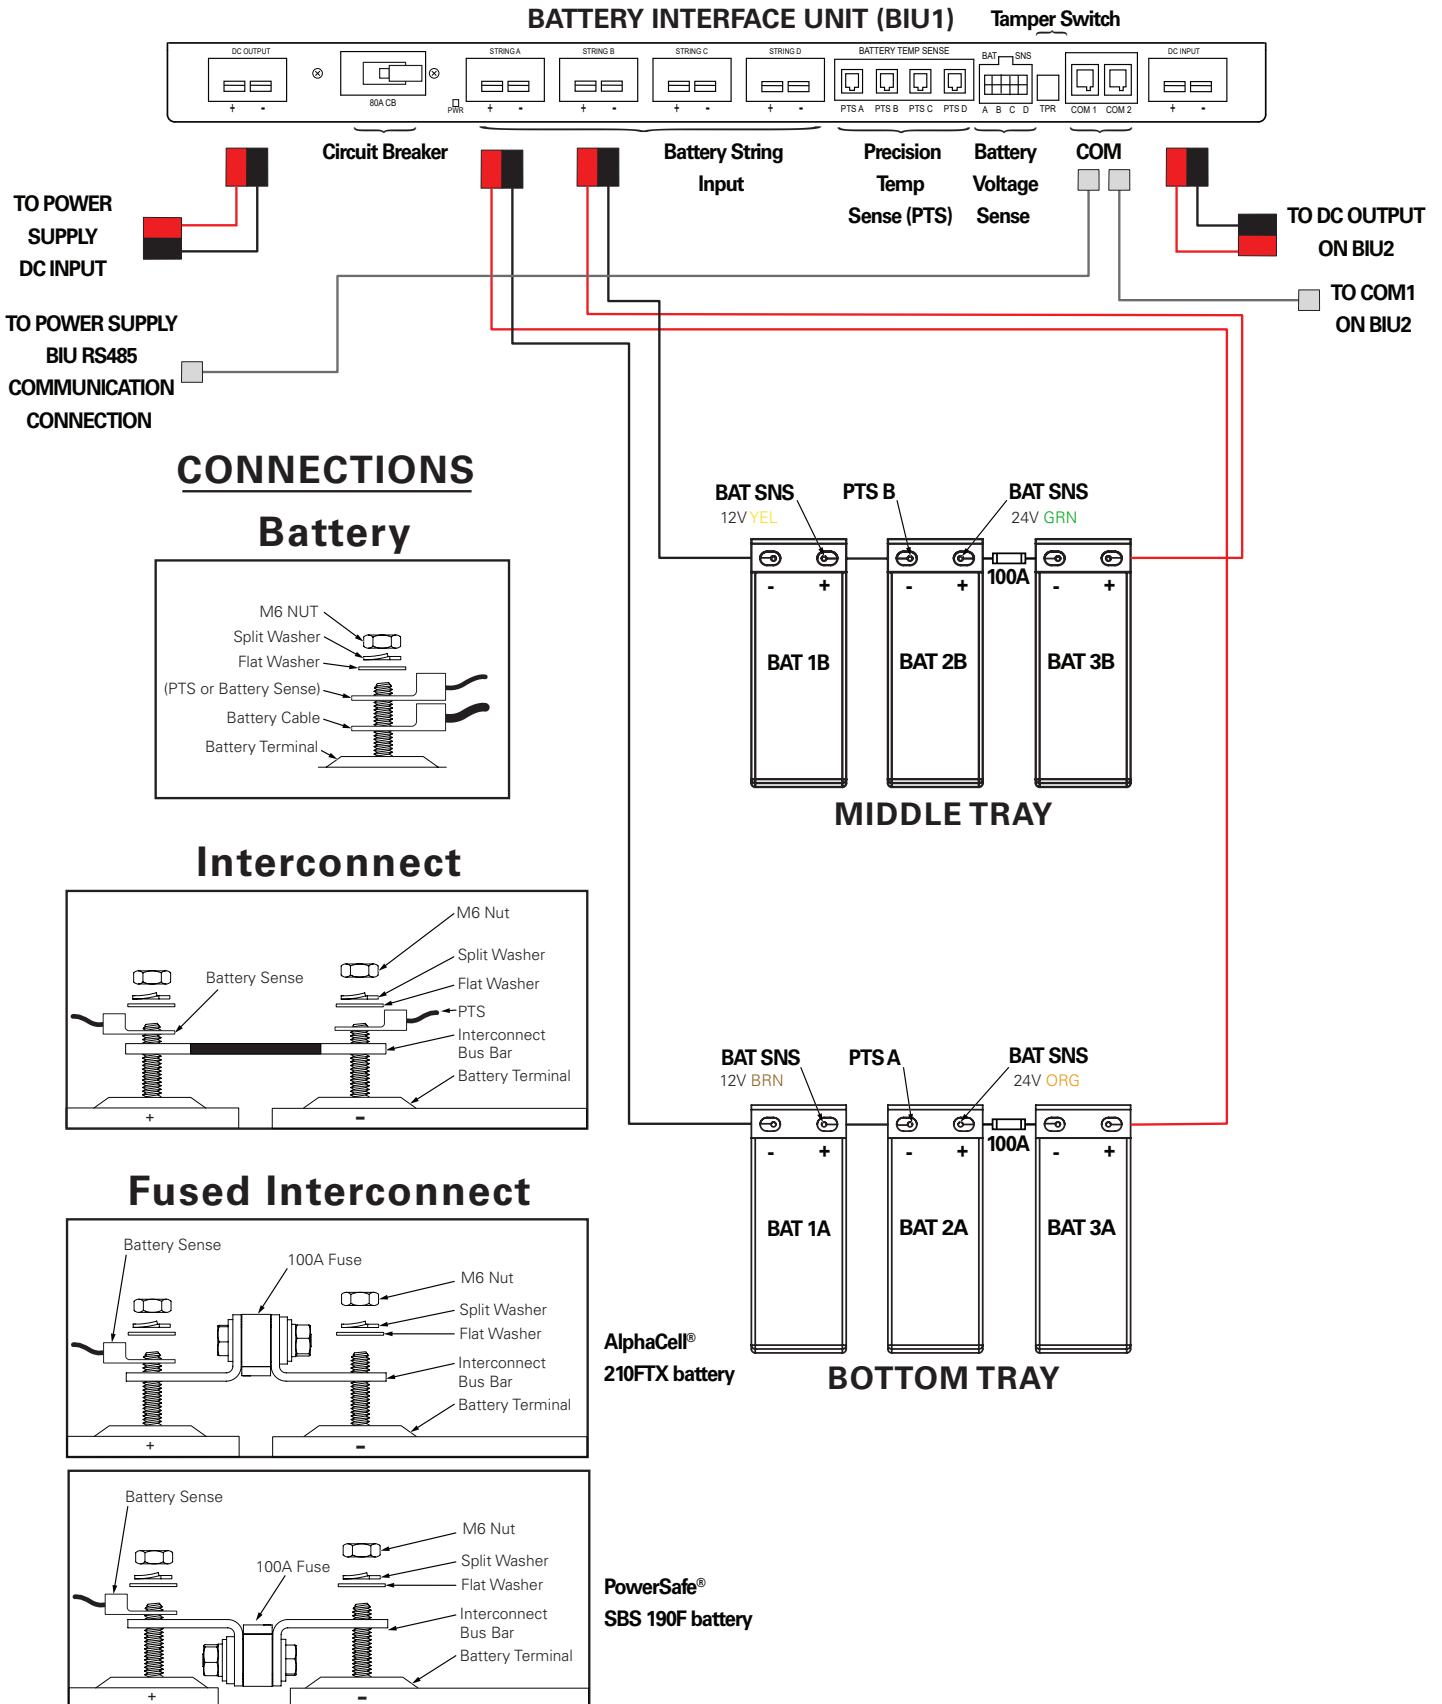
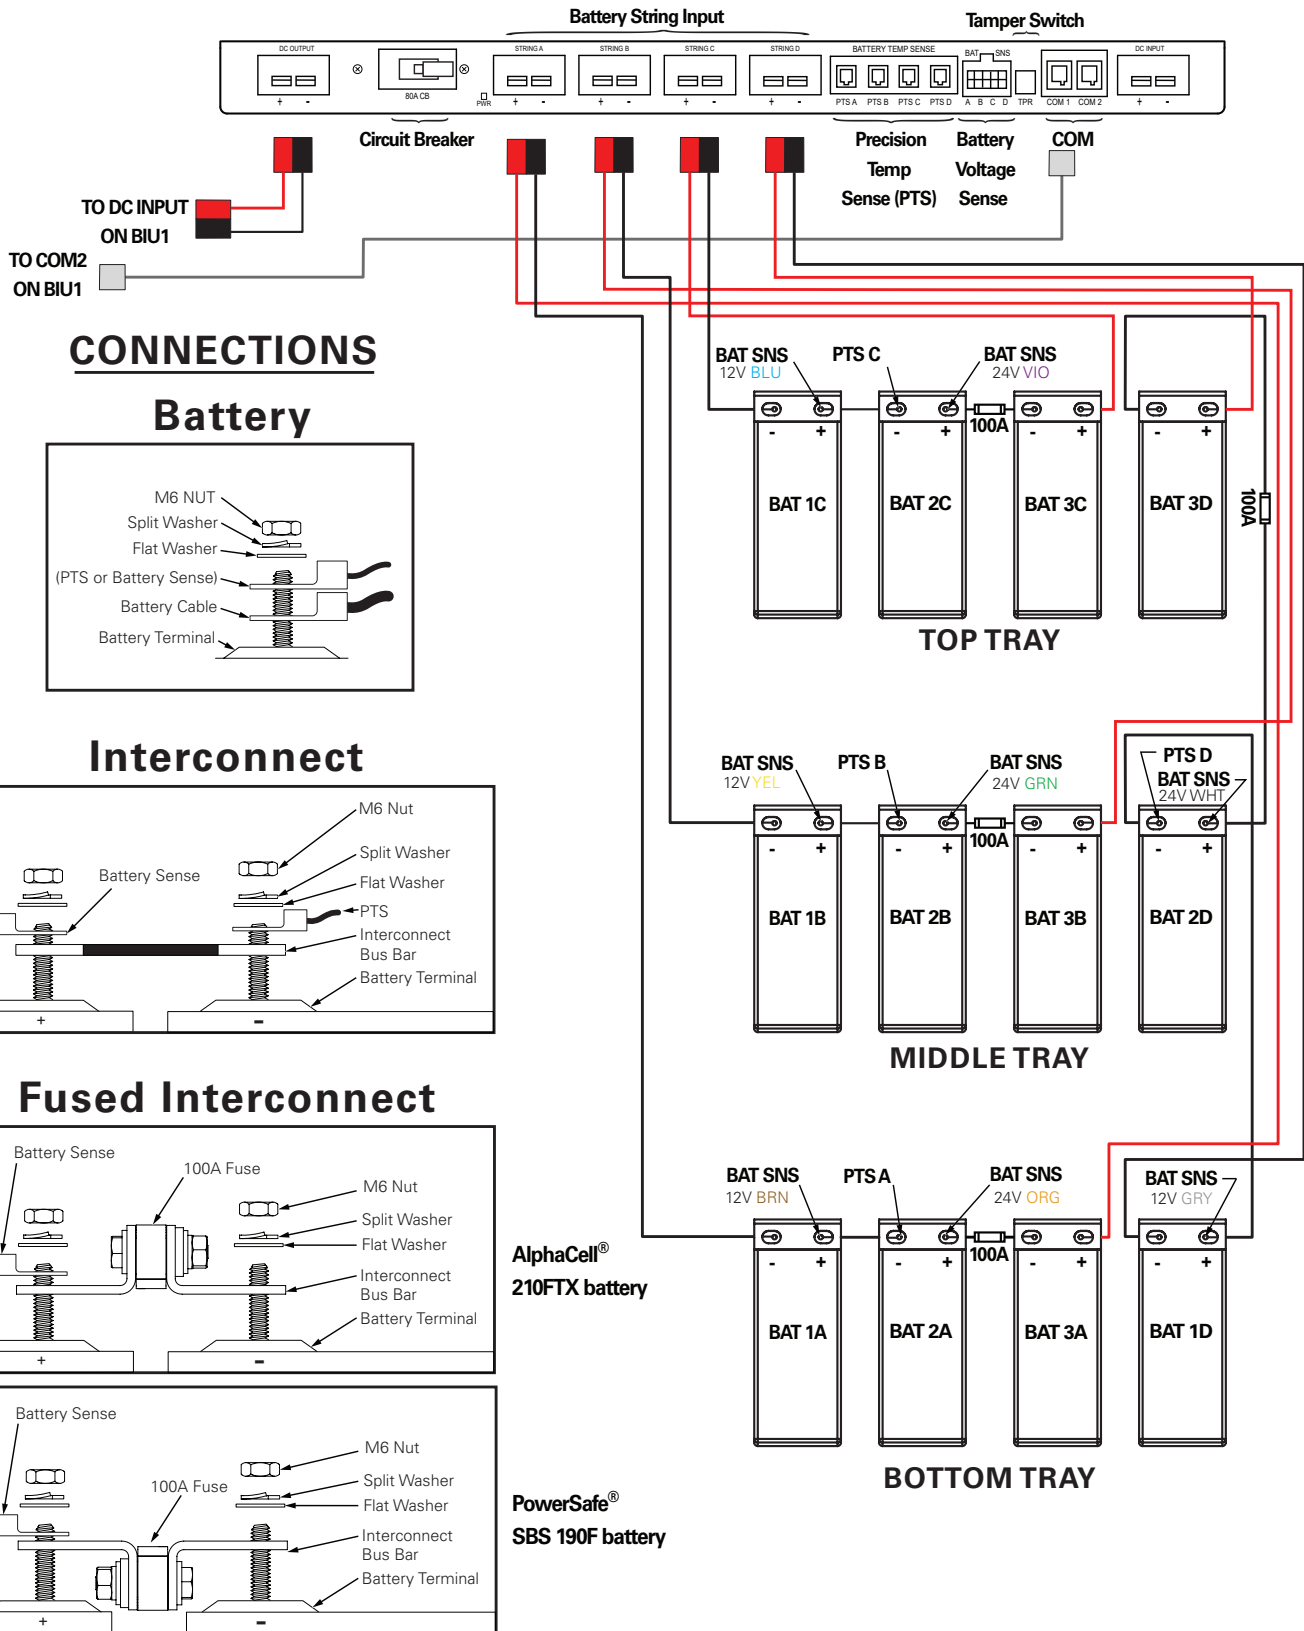

Fig. 3-29, PN-4 FT XRT-TPPL Power System Wiring Diagram
Fig. 3-30, PN-4 FTB XRT-TPPL Power System Wiring Diagram
Battery string locations for an 18-battery configuration are noted in Fig. 3-29 and Fig. 3-30. Each string uses three batteries. String D consists of the fourth battery on each row in the PN-4 FTB enclosure. Review hardware stack-up and wiring diagram to see the recommended layout and set up, then proceed with the installation procedure below.
13. Install wiring harness kit (876-00059-20 BAT,INTG,36VDC,2STRG,PN4FT,W/BIU,PTS,BS) in the PN-4 FT enclosure with two battery trays. (See Fig. 3-29 and *p/n 031-00014-08 System Wire Diagram* available on Alpha's website for reference.)
17. Install wire harness kit (876-00059-22 BAT,INTG,36VDC,4STRG,PN4FT,W/BIU,PTS,BS) in PN-4 FTB enclosure with 3 battery trays. (See Fig. 3-30 and *p/n 031-00014-08 System Wire Diagram* available on Alpha's website for reference.)
Precision Temperature Sensors (PTS) are mounted to specific battery terminals. Refer to Fig. 3-29 and Fig. 3-30 for hardware stack up and specific battery terminal placement. Connect the corresponding PTS cable to the BIU. Ensure the COM1 cable is connected to BIU communication connection on the XM3.1-HP™ power supply.